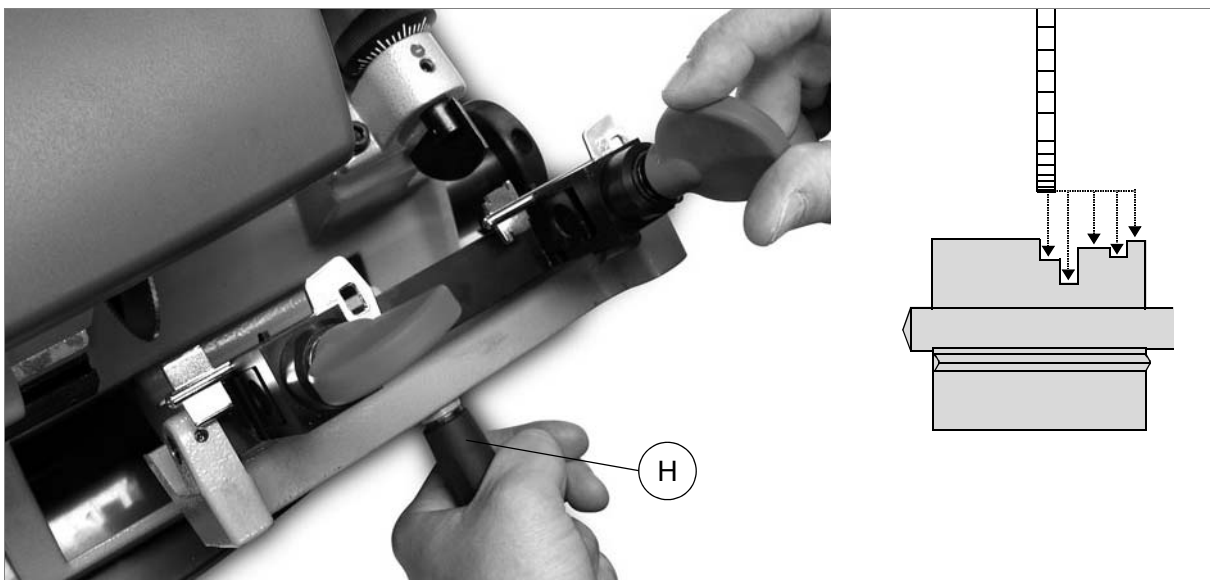

Fig. 46
- 6) Proceed with cutting (fig. 46); if necessary, activate tilting to flare the cuts (chap.7.1.4, page 23).
- 7) Raise the carriage with the handle (H) and take the original key into contact with the tracer point to carry out cutting.
- 8) Take the carriage back with the handle (H), go on to the next cutting position and continue from point 7.
- 9) When cutting is finished, turn off the switch (U) and remove the keys.